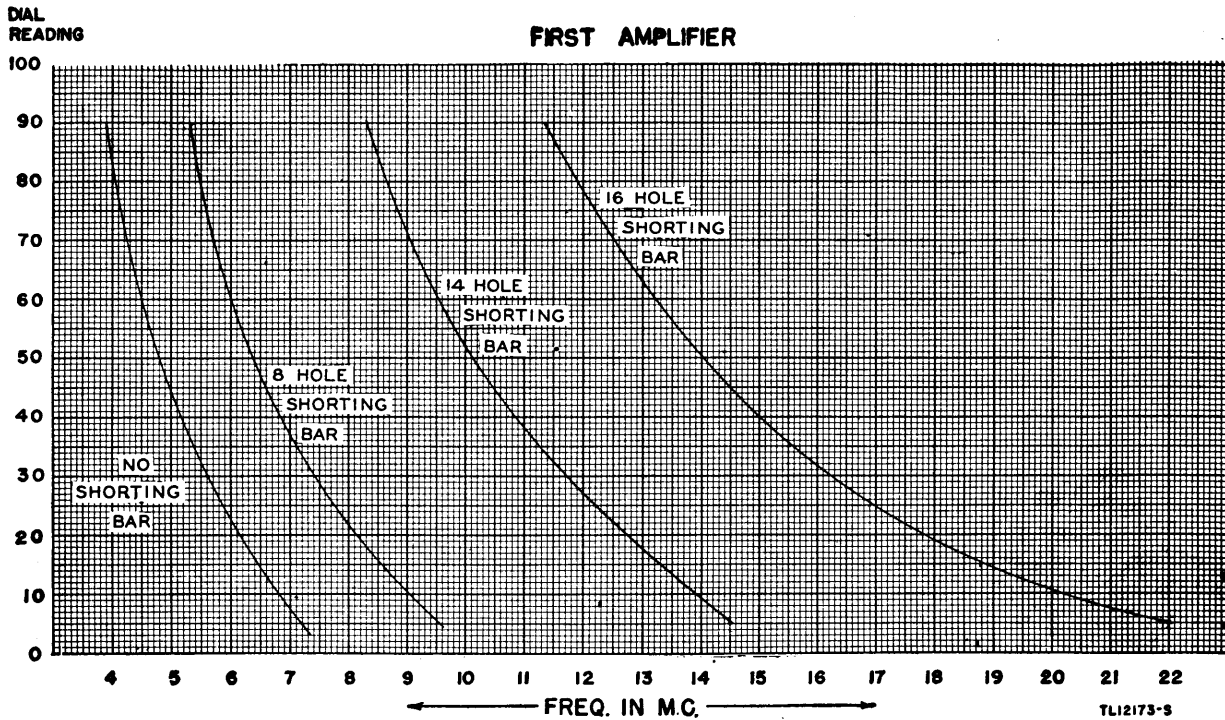

Figure 76. First amplifier tuning curve.
a. Attach the proper shorting bars to the first amplifier and p-a tank coils as determined by the operating frequency and figures 76 and 77. When shorting bars are properly attached to the tank coils, an equal number of turns will be shorted on each side of the coil center tap. Be sure the bars are attached wrench tight. It is sometimes necessary, depending upon the frequency, to use two shorting bars simultaneously on the p-a tank coil.